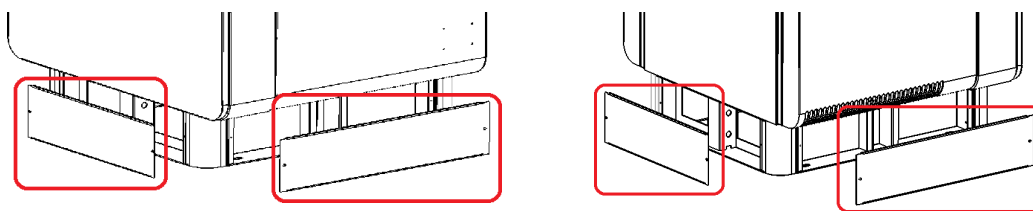

FIG. 6 Schematic diagram of sealing plate before and after charging pile
- (1). Using a phillips screwdriver, first remove the front, rear and left sealing plates of the base, as shown in Figure 6.